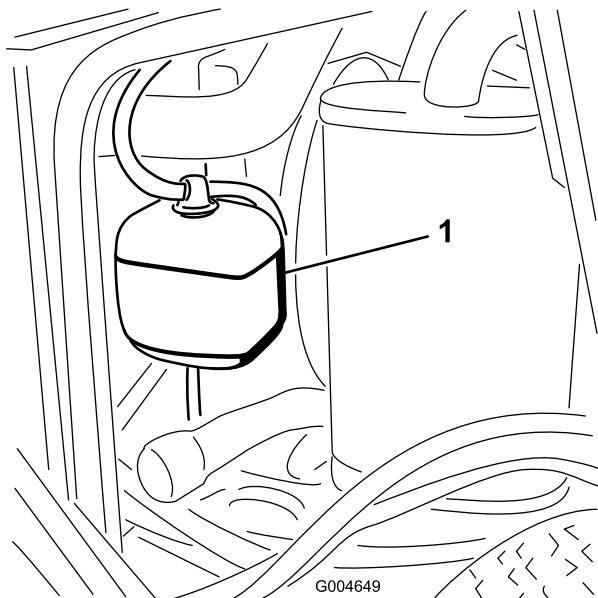

Figure 54
1. Check the level of the coolant in the expansion tank (Figure 54). The coolant level should be between the marks on the side of the tank.